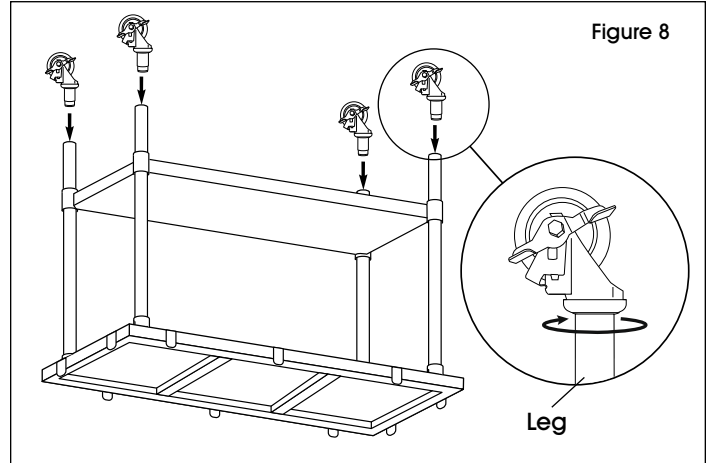

Figure 8
3. With caster fully inserted into the leg, turn clockwise until caster is secured to tube leg. (See Figure 8)